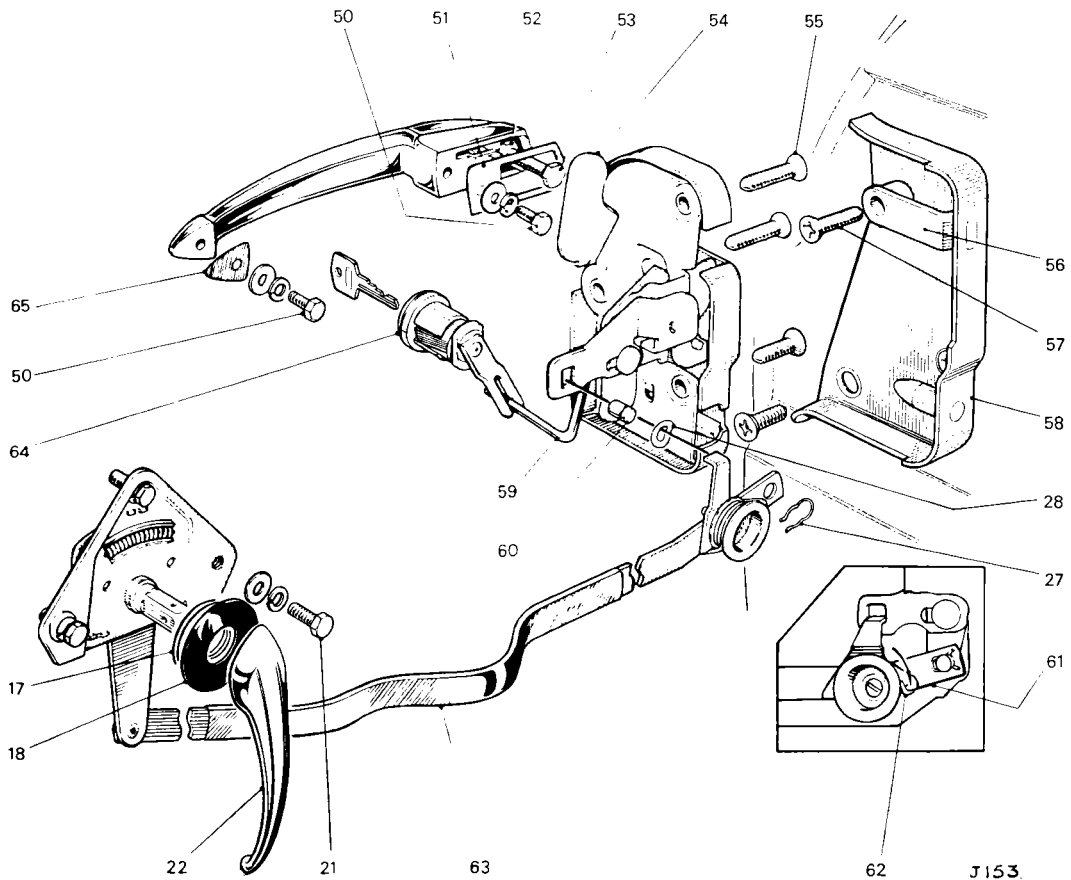
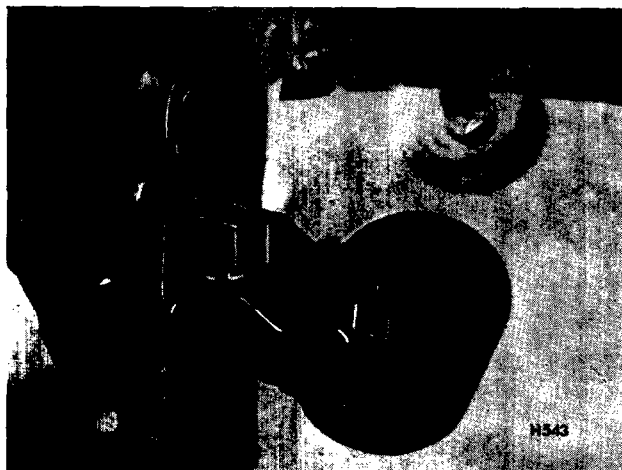

Fig. 35. Anti-burst door lock details (Spitfire Mk. 2 and 3)
Fig. 39. Refitting anti-burst door lock (Spitfire Mk. 2 and 3)
Refer to Fig. 35
- 1 & 2 To Remove and Refit (Fig. 35) - procedure as for Spitfire 4.
1. **To Remove** (Fig. 35)
- (c) Take out three countersunk screws (55) retaining the lock unit to the door end panel.
- (d) Lift the lock operating lever (60) sufficiently to allow the lock unit to be withdrawn through its aperture in the door end panel.
- (a) Reverse the removal procedure and ensure that the door lock engages with the private lock (Fig. 39).
K ANTI BURST STRIKER PLATE**1. To Remove** (Figs. 35 and 41)
1. To Remove (Fig. 35)
- (a) Ensure that the collar (64) is in place, then insert the key operated locking barrel in the aperture of the door panel with its operating fork inclined towards the shut face (Fig. 39) and press firmly in position.